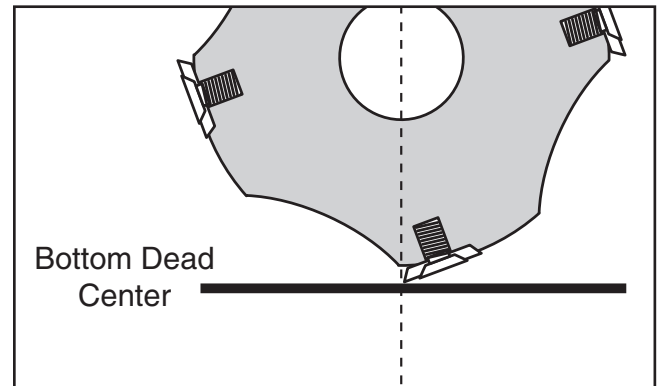

Figure 31. Carbide insert at bottom dead center
*BDC = Bottom Dead Center (see **Figure 31**).